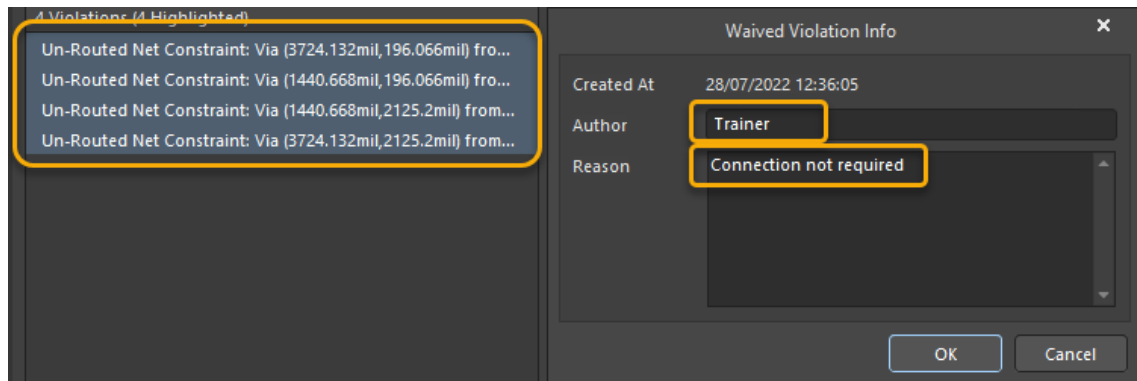

Figure 22. Waive a Violation
46. Run the **Design Rule Check...** again from the **Tools** menu. The Design Rule Check should now indicate seven (7) violations.
47. Return to the PCB document. Select **[All Rules]** from the *Rule Class* section to view the seven (7) remaining violations.
49. We will accept these Violations by right mouse click on the violations to open the *Waive Selected Violation* dialog with the *Waived Violation Info* option and enter details like shown in Figure 22.